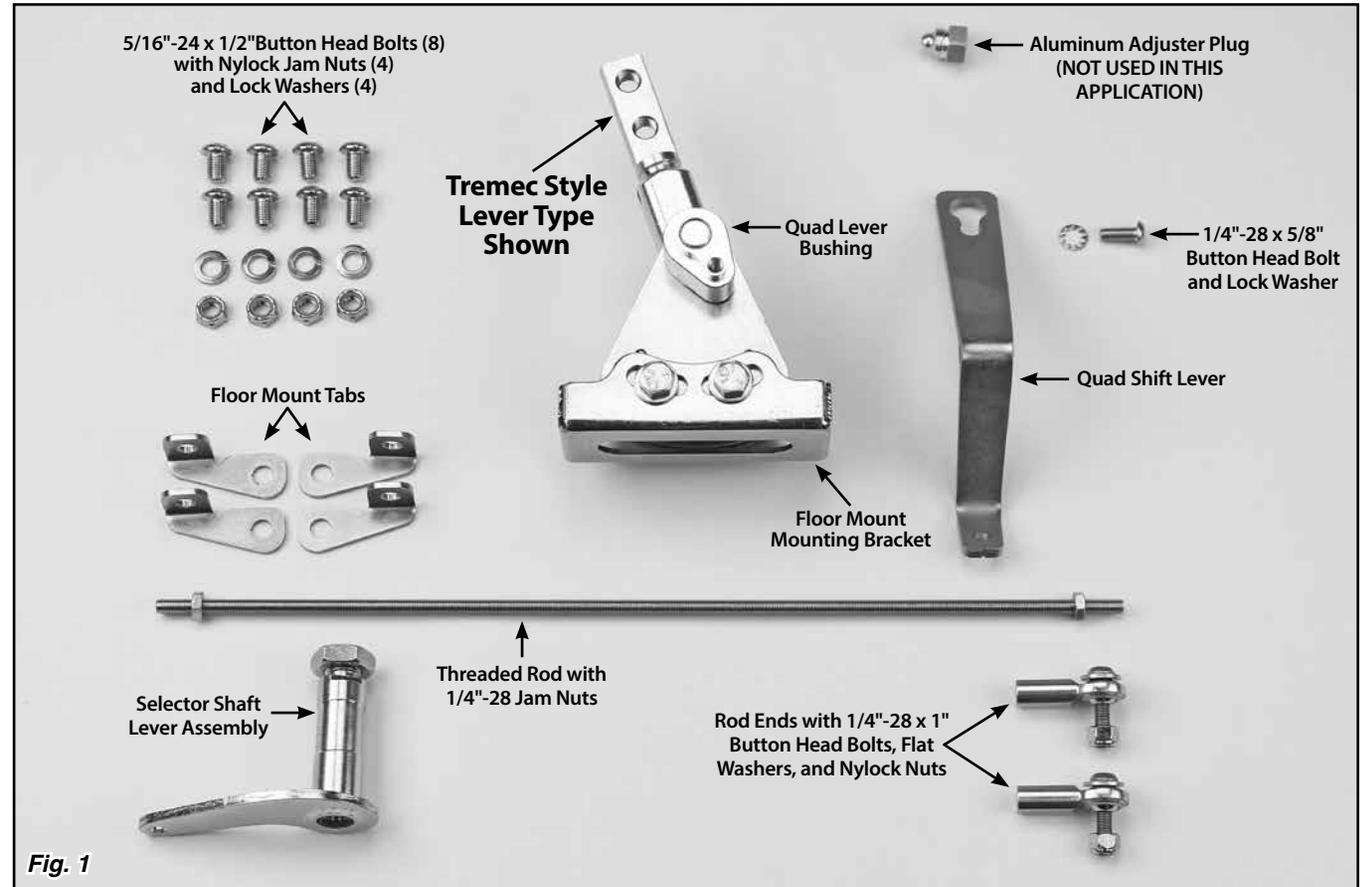
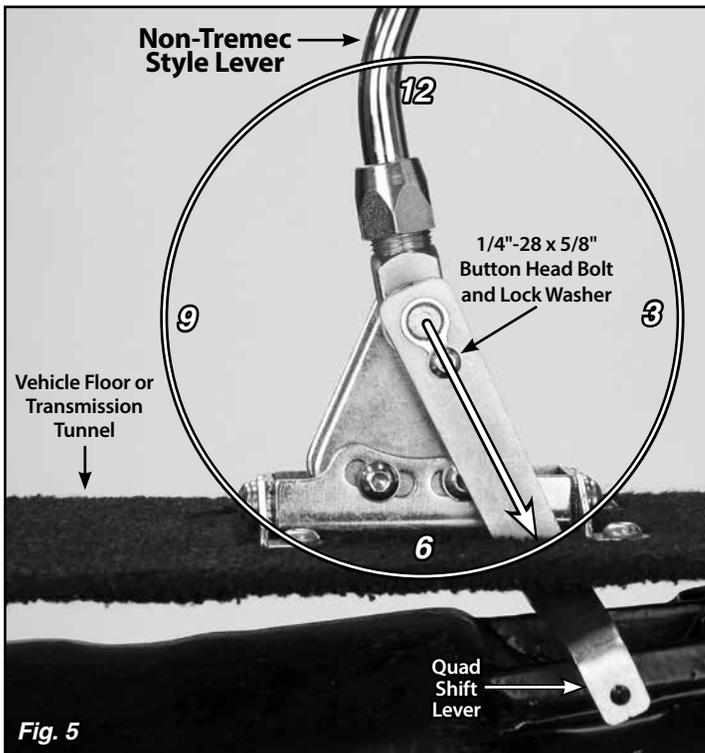

Fig. 1
Fig. 5
Refer to Fig. 1 for the component names.
This Shifter is offered either with a stub designed to accept a Tremec style bolt on Shifter Lever (as shown in Figs. 1, 3 and 10, Shifter Lever available separately but not included) or with a pre-installed round tubular Shifter Lever (as shown in Fig. 5). The installation of both styles of Shifter is the same.
Step 9: Temporarily place the quad shift lever in position on the quad lever bushing as shown in **Fig. 5**. Check for interference with the driver side rear floor mount tab or the vehicle floor. With the shifter lever in Park, you want the quad shift lever to be as close to the 4:30 - 5:00 position as the floor mount tab will allow, without the quad shift lever touching the floor mount tab or floor.